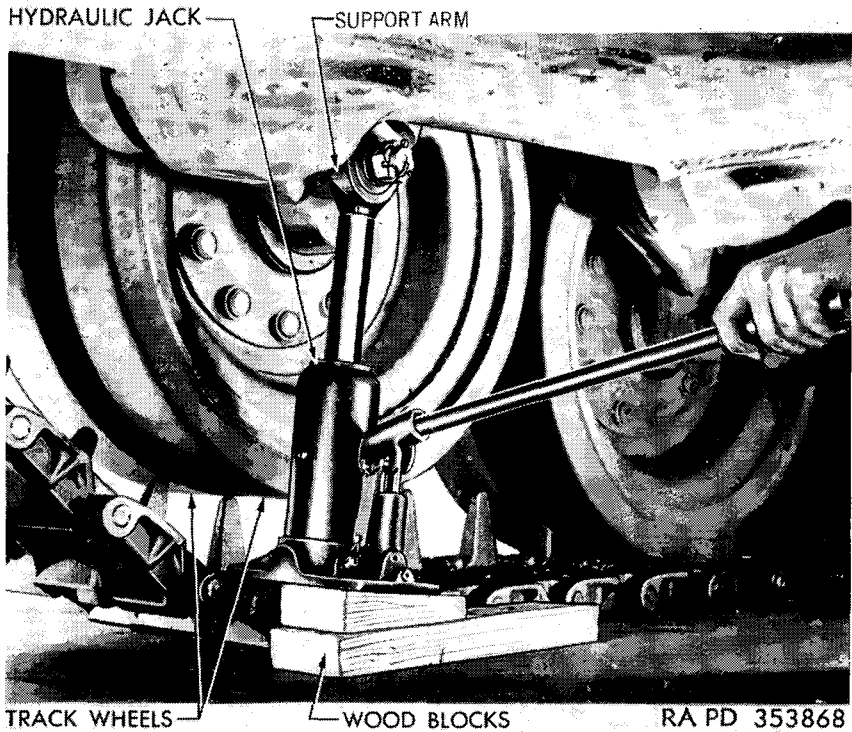

Figure 147. Lifting track wheel, using hydraulic jack.
- (1) *Remove wheel.* If wheel lifter—41-L-1400 is available, proceed as follows: Loosen track adjusting nut several turns to relieve track tension. Place wheel lift block over track guides between drive sprocket and No. 1 track wheel. Drive vehicle forward slowly until wheel to be removed rests on center of block (fig. 146). Place support arm hook under support arm and over top of arm bumper spring bracket, making sure that top of hook is between spring mounting screw and bracket mounting screws (fig. 146). Drive vehicle, slowly, either forward or backward until track wheel next to the one to be removed rests on top of the wheel lifting block. Set brakes and stop engines. Remove 10 nuts which holds wheels to hub and lift off wheel. If wheel lifter—41-L-1400 is not available, set brakes and place a block of wood (2 x 4 in or 2 x 6 in) against inside edge of track. Position hydraulic jack, with base of jack on track and block of wood under support arm to be lifted (fig. 147). Lift support arm until wheel clears track guides. Remove 10 nuts which hold dual wheels to hub and lift off wheels.